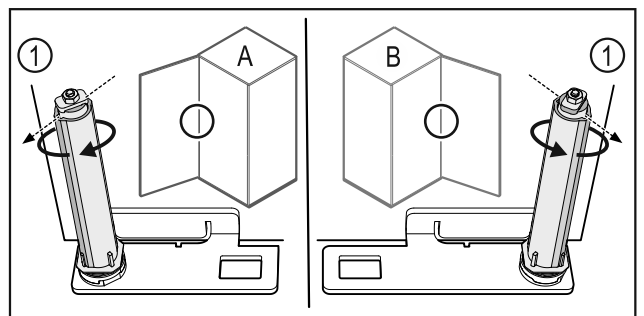

Fig. 56 Left-hinged (A) / Right-hinged (B)
- ▶ Turn the closing system against the resistance until the bar of the closing system Fig. 56 (1) points outwards.